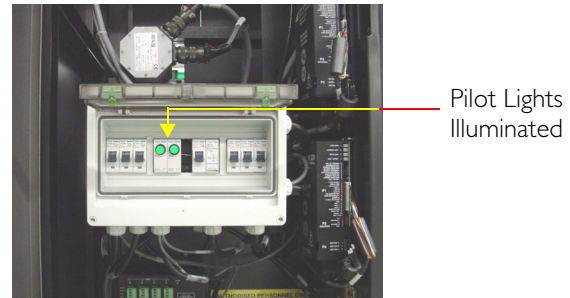

Figure 10. **Circuit Breaker Panel**
3. Check that both pilot lights are **illuminated** (as shown in Figure 10), indicating voltage coming to the PDU.